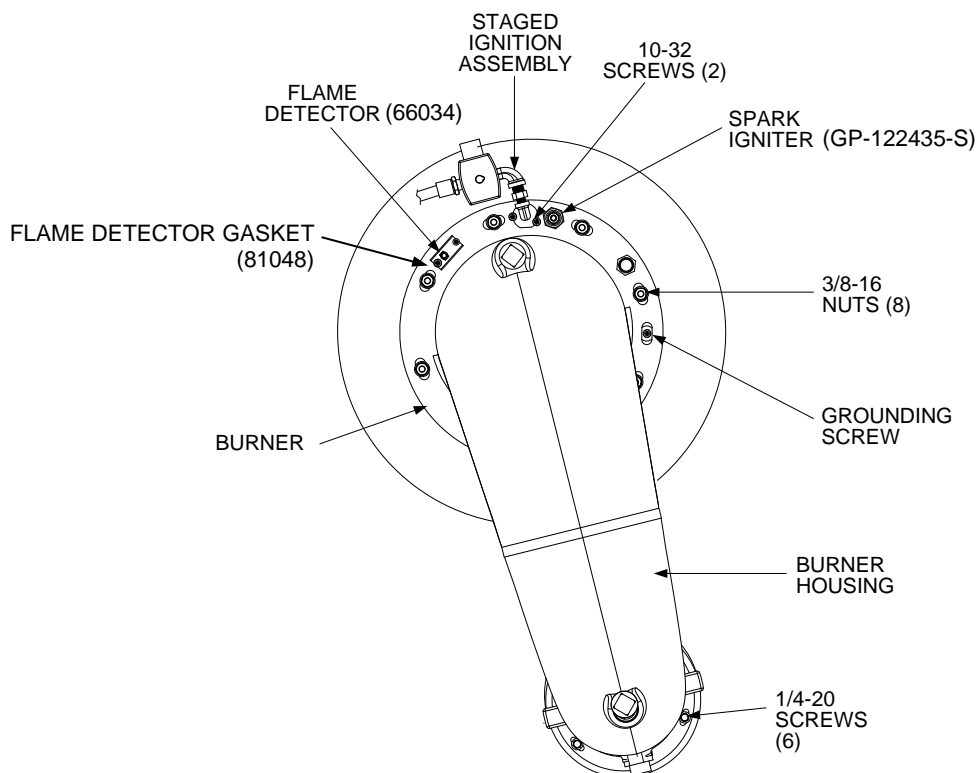

Figure 5. Benchmark 3.0LN Burner Disassembly – Top View
2. Disconnect the lead wire from the flame detector, shown in Figure 5, below.
3. Remove the two (2) screws securing the flame detector to the burner housing flange and then remove the flame detector and gasket.
4. Disconnect the igniter cable from the igniter (Figure 5), then unscrew and remove the igniter.
5. Remove the two (2) 10-32 screws securing the staged ignition assembly to the burner housing and then separate the staged ignition assembly from the burner. Remove the gas injector gasket (P/N **81070**) from the burner, as it will be replaced during reassembly.
6. Disconnect the burner housing from the blower by removing the six (6) 1/4-20 screws using a 3/8" wrench.
7. Remove the eight (8) 3/8-16 nuts and washers from the burner flange (Figure 5) using a 9/16" wrench.